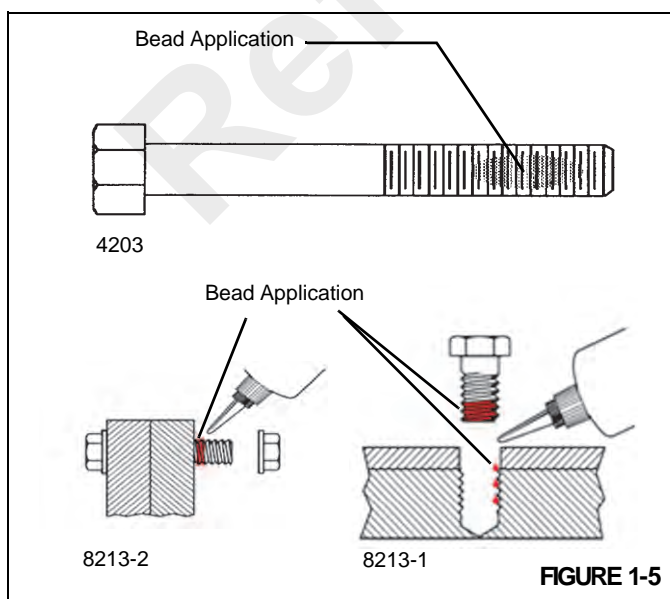

FIGURE 1-5
1. Apply a bead perpendicular to the thread, several threads wide, in the approximate area of threaded engagement (see Figure 1-5).
3. After application and engagement of mated threads, fixturing will occur within five (5) minutes. Time required to achieve full strength is 24 hours.